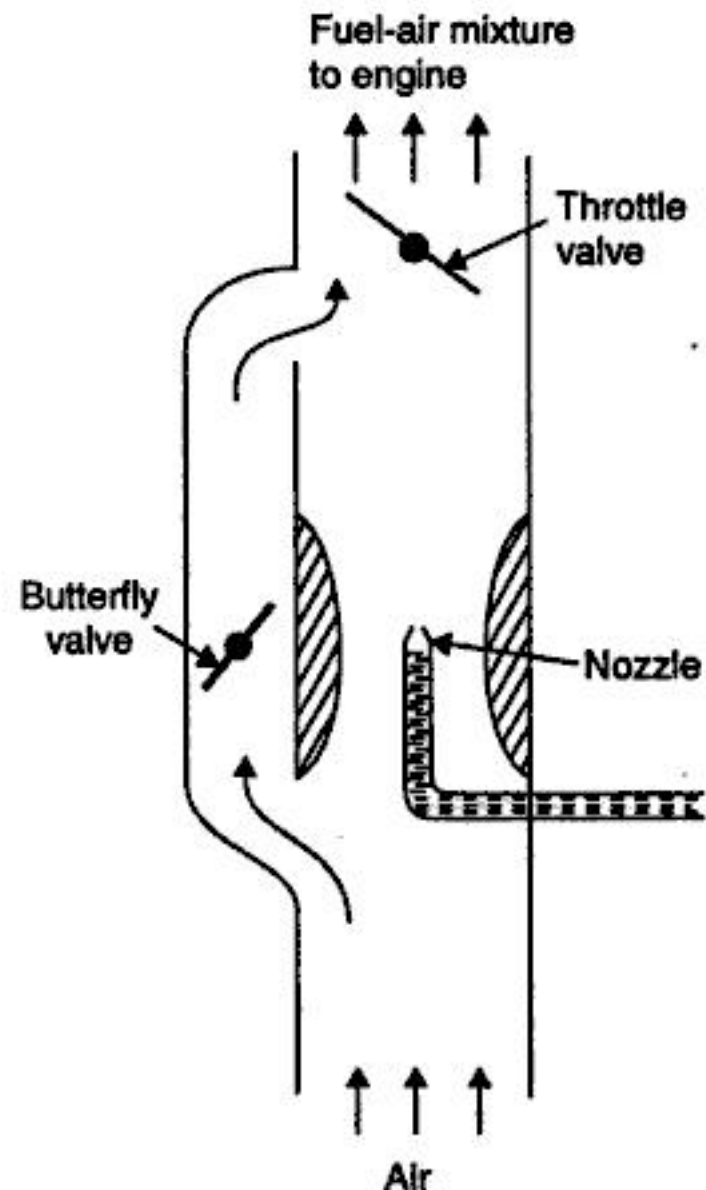

Fig. 11.11. An auxiliary port carburettor.
- Fig. 11.11 shows an auxiliary port carburettor. When the butterfly valve is opened, additional air is admitted and at the same time the depression at the venturi throat is reduced ; this results in decreasing the quantity of fuel drawn in.